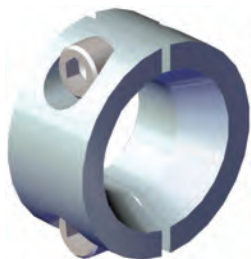

Fig.21
21. Next we'll be installing the **Rear Prop Shaft**. However, you will first need to install the **New Carrier Bearing** onto the shaft as shown in **Fig.21**. The bearing is part of the **Carrier Bearing Kit**. See **Fig.21**.